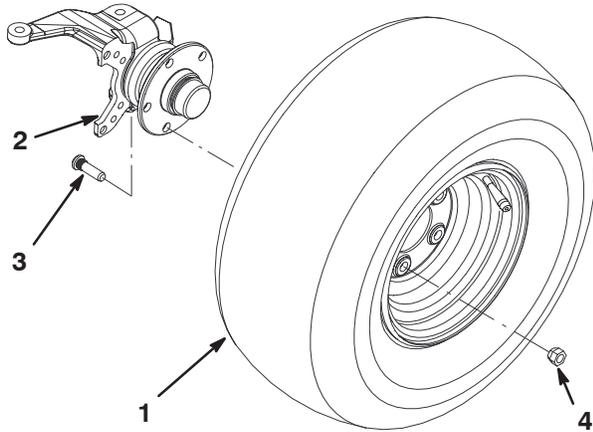

Figure 3
3. Mount the wheels with the previously removed fasteners (Fig. 3) and torque the bolts to 45–65 ft.-lb. (61–81 N·m)